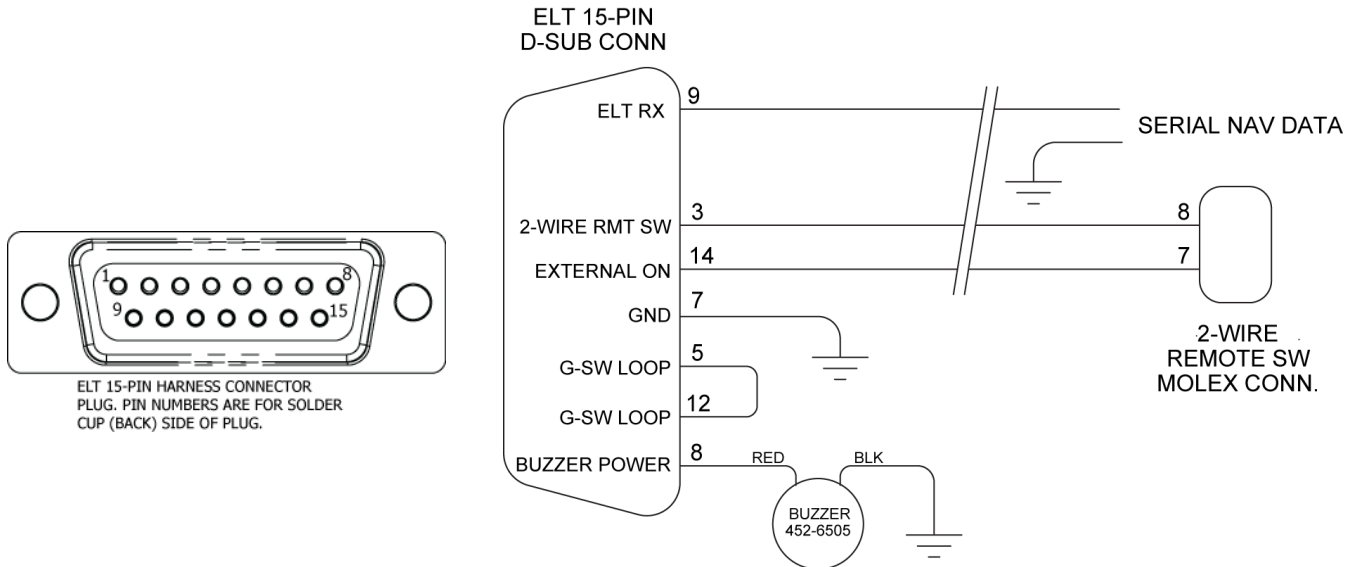
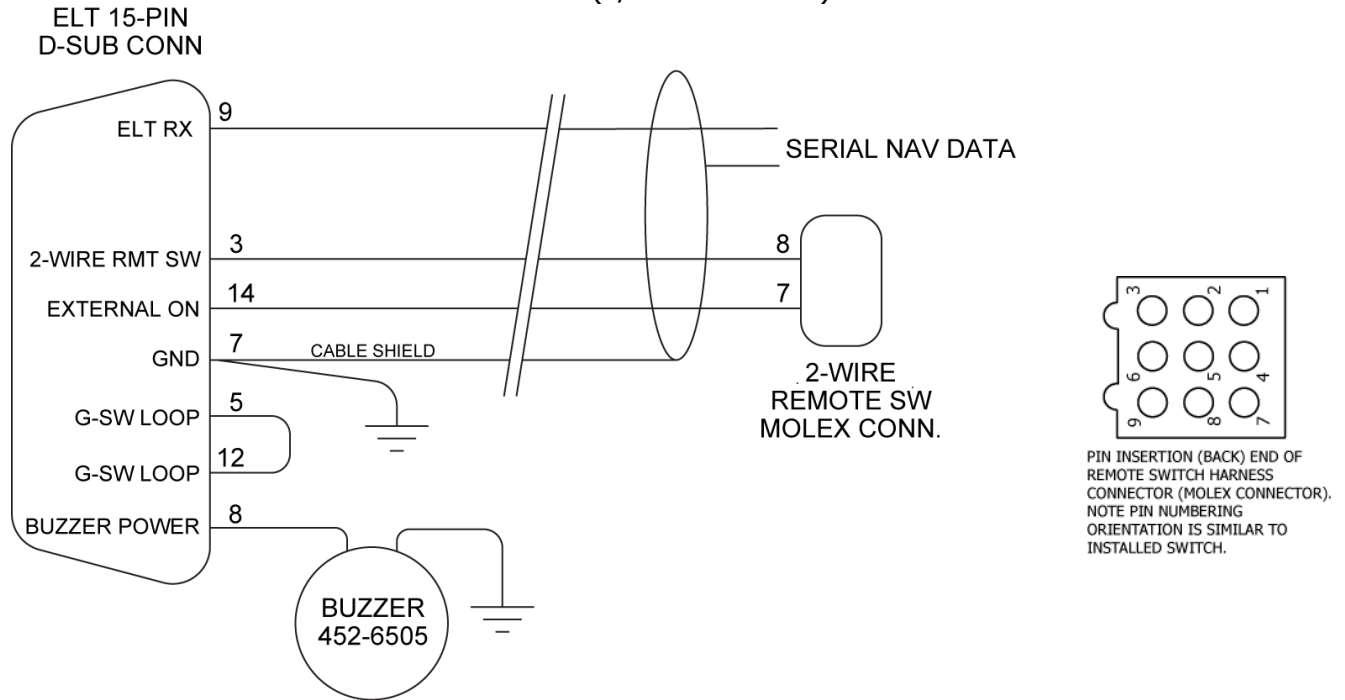

Figure 18 Typical 2-Wire Installation for Unshielded Harness
Figure 19 Typical 2-Wire Installation for Shielded Harness
- 5) Buzzer ground conductor may be soldered to the cable shield or ground pin for composite airframe installations (see Figure 19 Typical 2-Wire Installation for Shielded Harness on page 47 for composite airframe wiring diagram).
- 1) Insert the wiring pins into the Molex 9-pin cockpit remote switch plug. Refer to Figure 18 Typical 2-Wire Installation for Unshielded Harness on page 46, Figure 19 Typical 2-Wire Installation for Shielded Harness on page 47.
- 1) Connect the ground wires to the airframe as described in AC 43.13-1, Chapter 11, § 15, as applicable. Refer to Figure 18 Typical 2-Wire Installation for Unshielded Harness on page 46, Figure 19 Typical 2-Wire Installation for Shielded Harness on page 47 as appropriate.